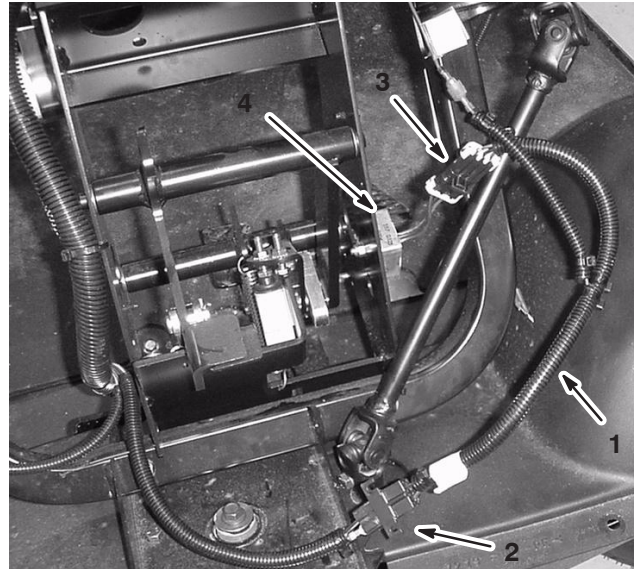

Figure 3
4. Connect the front key start harness to the key start module with the matching connector and connect the opposite end to the existing wiring harness connector (Fig. 3).